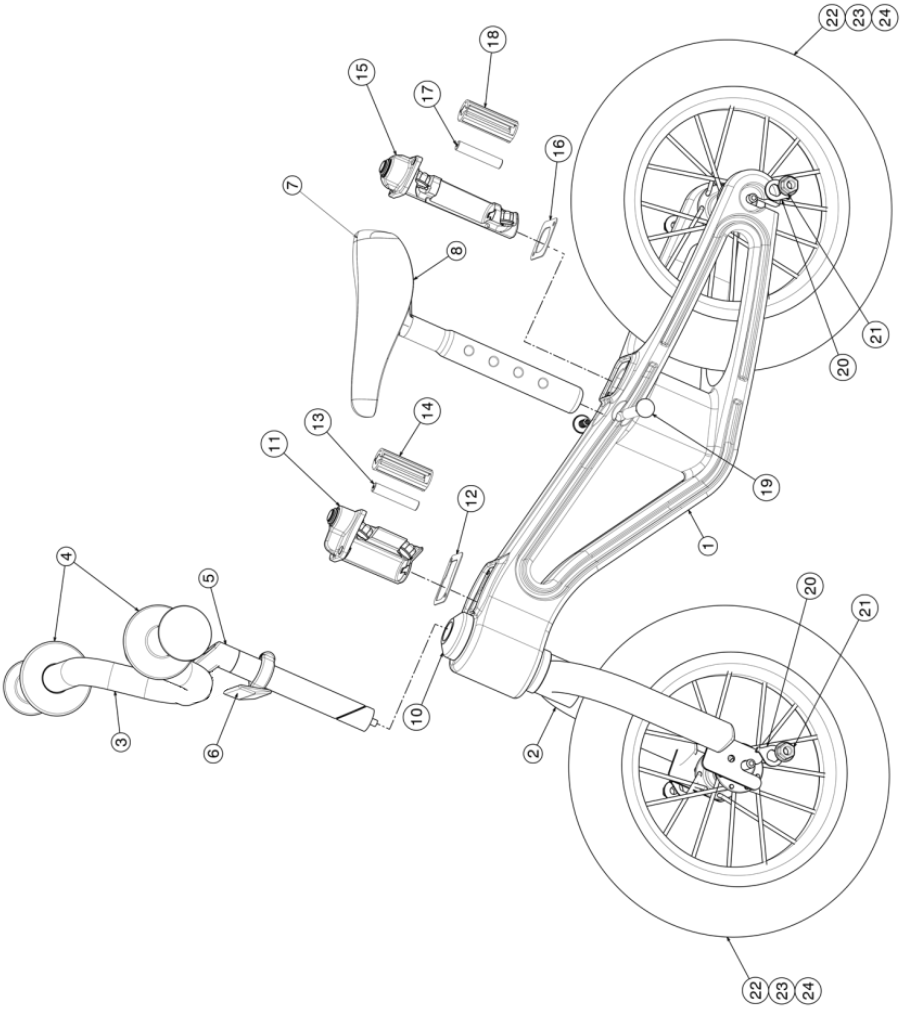

Fig 01
1. Insert three AAA batteries into Front Battery Tray (14)
2. Insert Front Battery Tray (14) into Front Light Insert (11)
3. Place silicone gasket (12) over the front insert slot in frame.
4. Insert Front Light Insert into slot. (**fig 01**)